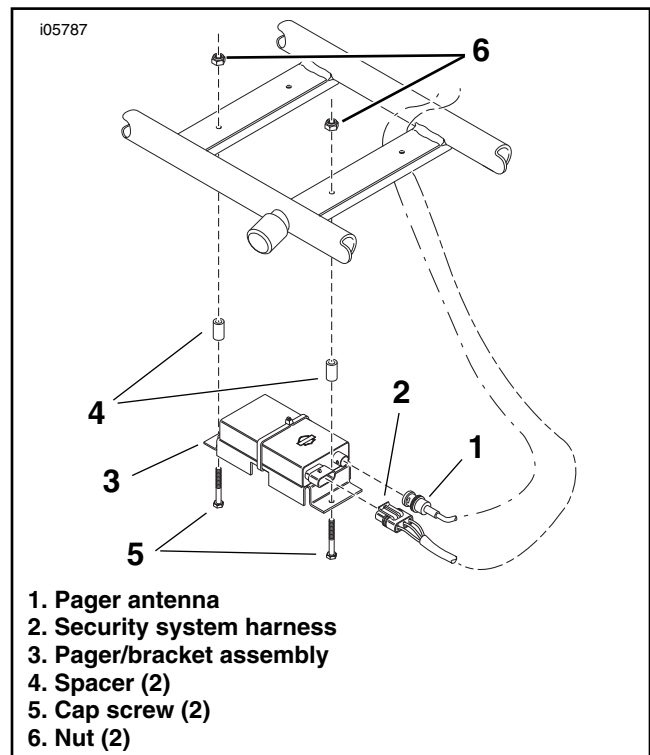

Figure 27. Install the Pager and Bracket Assembly
6. Insert a cable strap (5) into the hole in the bracket and secure the transmitter to the bracket.
7. See Figure 27. Connect the pager antenna (1) and security system harness (2) to the pager transmitter.